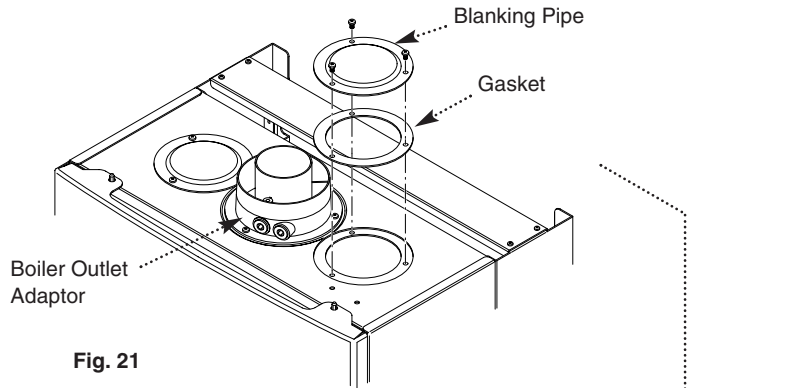

Fig. 21
2. The flue and air duct adaptors must be fitted to the boiler outlet adaptor and boiler top panel (Fig. 21).
5. After determining the routing of the air duct remove the appropriate blanking plate from the boiler top panel, being careful not to damage the gasket. Retain the gasket and screws (Fig. 21).